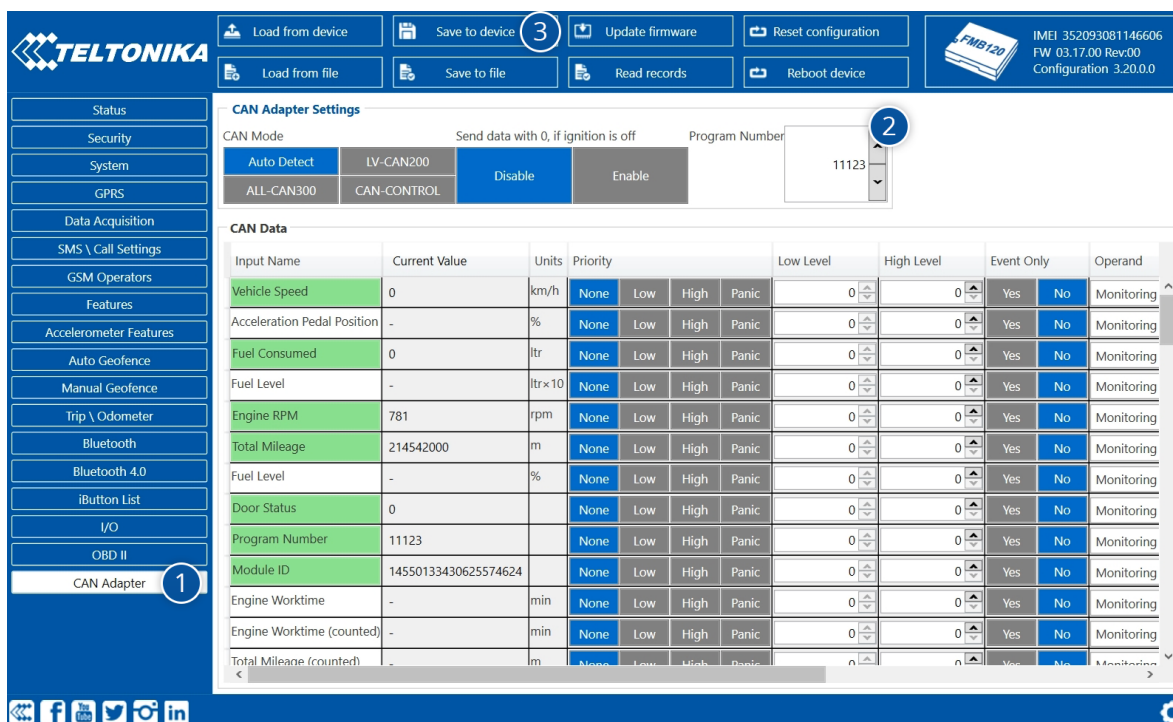

Figure 2 CAN Adapter Settings in Configurator, 1 - CAN Adapter settings, 3 - Save to device, 3 - Program number field
CAN-CONTROL program number can be set via **Configurator**, see **Figure 2**. Go to **CAN Adapter** (1) → **Program Number** (2). Enter program number and press **Save to device** (3) button that saves the current configuration into **FMB1YX**.
When FMB1YX is connected to CAN-CONTROL, user can see all information that is received from the vehicle in Configurator → **CAN Adapter (Figure 2)**, all data are highlighted by **green background color**. Information in this section is automatically refreshed. CAN bus data which can be read from your car is provided in "**CAN-CONTROL supported vehicle list**" document. The CAN-CONTROL I/O element can be configured like any other I/O element in FMB1YX Configurator.